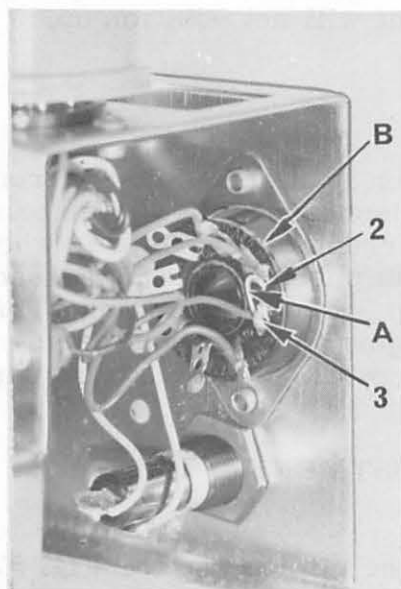

Fig. 36
When installing inching switch, (670 B-21) be sure to remove jumper wire (A, Fig. 36) located between pin #2 and pin #3 on socket (B) before connecting the inching switch plug or it will not function properly.
Should the inching switch be removed at a later date, the jumper wire (A, Fig. 36) must be replaced or the needle positioning unit will not position up.